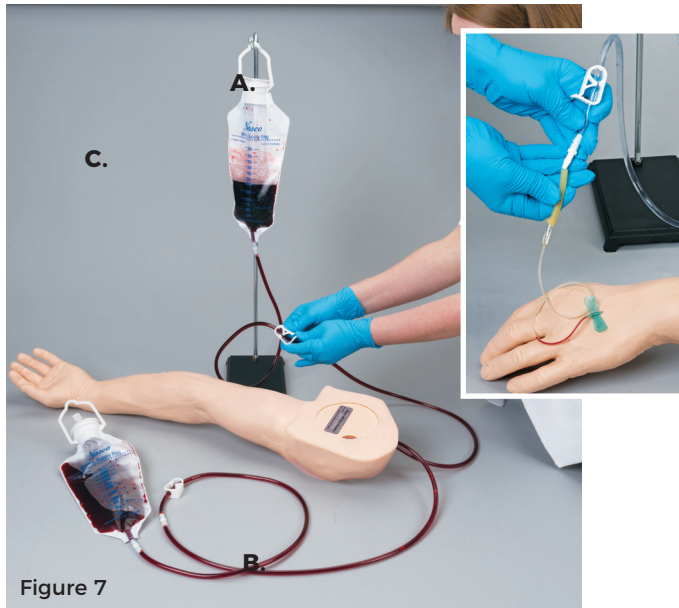

Figure 7
6. Attach the needle or butterfly to the tubing from the infusion solution (not supplied) or fluid supply bag C (sold separately) with the latex adapter if needed. (See Figure 7 and inset.)